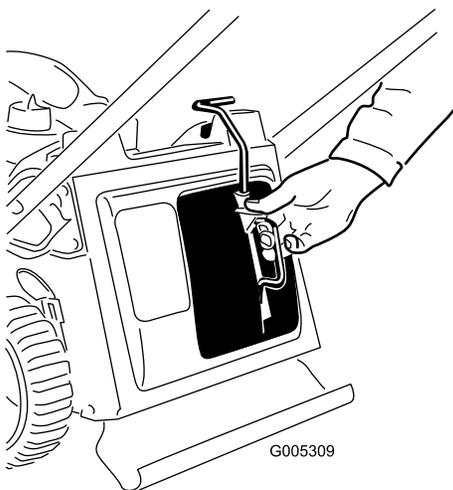

**Figure 17**
3. Tighten the upper handle knob as tight as you can (Figure 17).